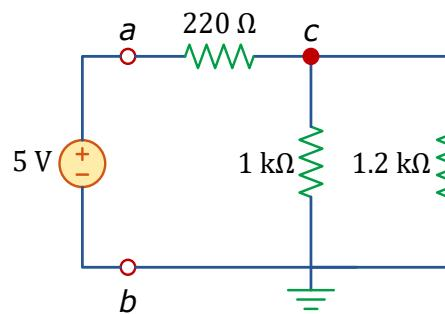

Figure 1.3: Resistive circuit for Lab 1 with DC power supply.
**A.4** Following the format and notation in Figure 1.2, draw how the voltage  $V_{cb}$  and the currents  $I_{220\Omega}$  and  $I_{1k\Omega}$  would be measured in the circuit shown in Figure 1.3. Refer to the Multimeter video and the corresponding section in the Appendix (Digital multimeter) for further details.